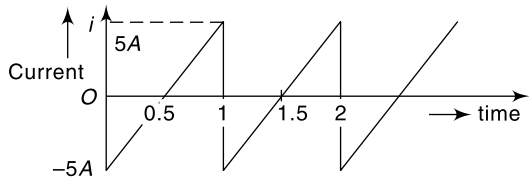

Fig. 5.62 Waveform for Ex. 5.87
5.87 Find the average and rms value of the waveform shown in Fig. 5.62.